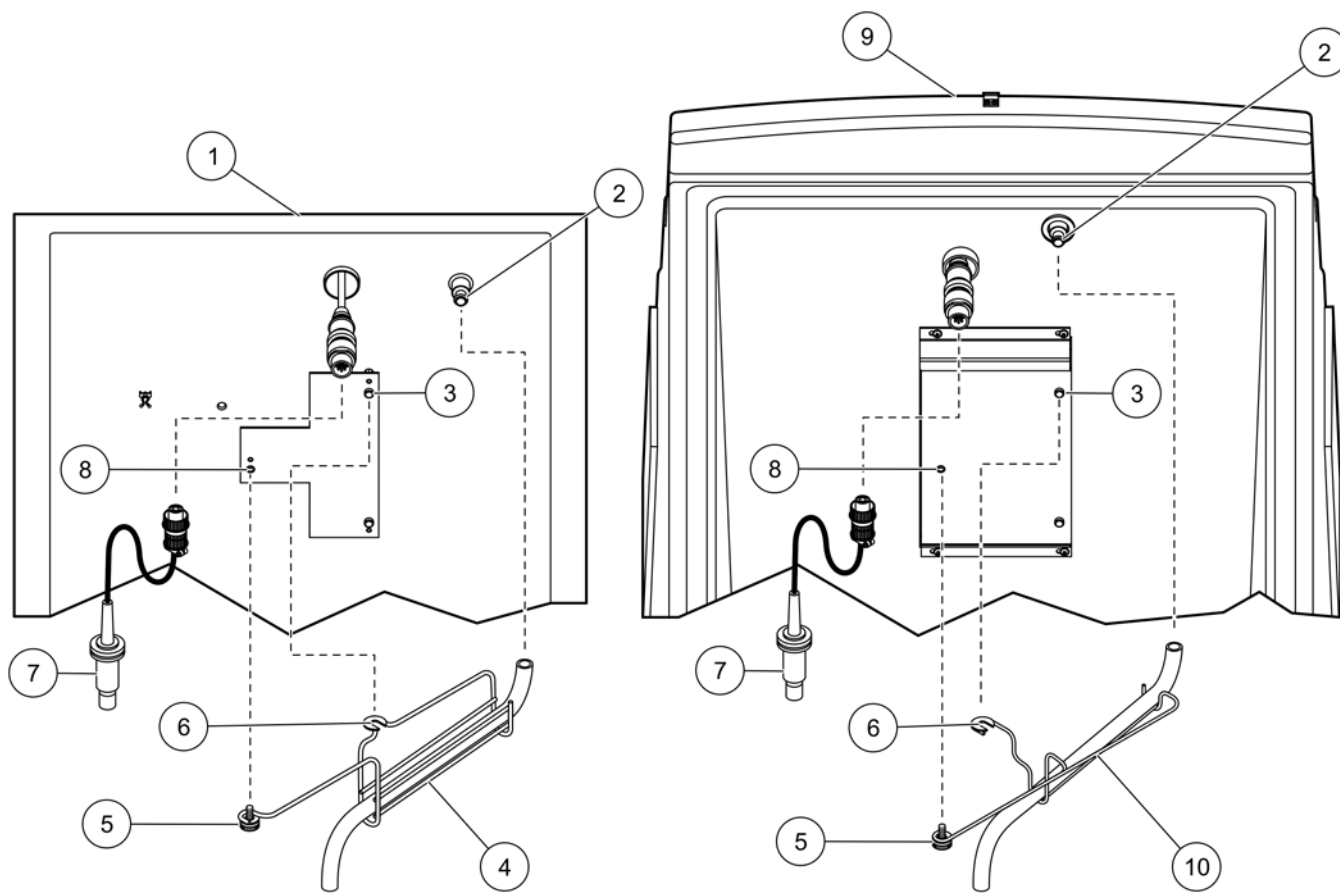

Figure 8 Full bottle shut-off installation
3. Connect the cable on the full bottle shut-off to the bottom of the controller (Figure 8). Turn to tighten.
4. Slide the slot in the tubing support around the retainer pin on the top inside surface of the refrigerator (Figure 8). Make sure that the tube exits through the ends of the tubing support.
6. Connect one end of the tubing to the inside tube fitting (Figure 8).